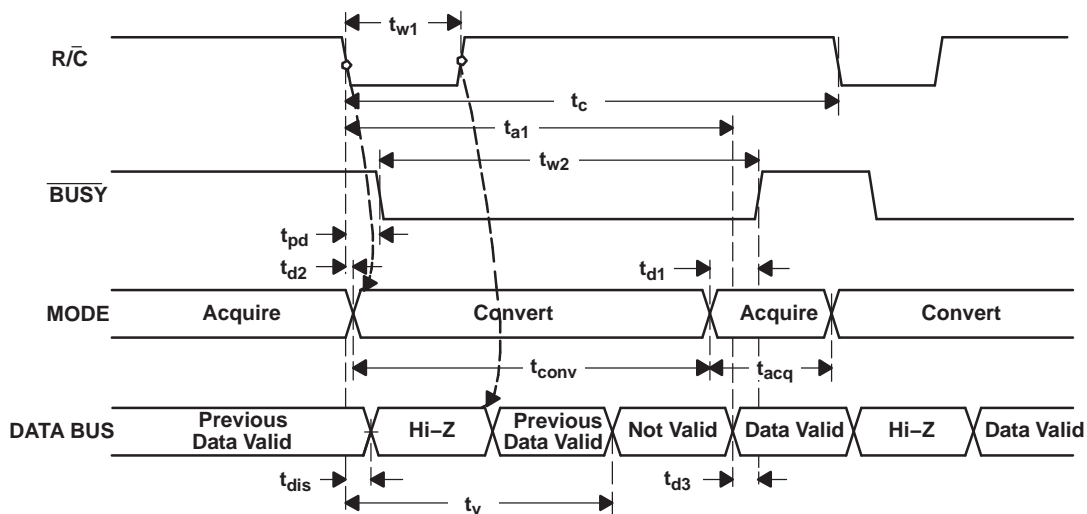
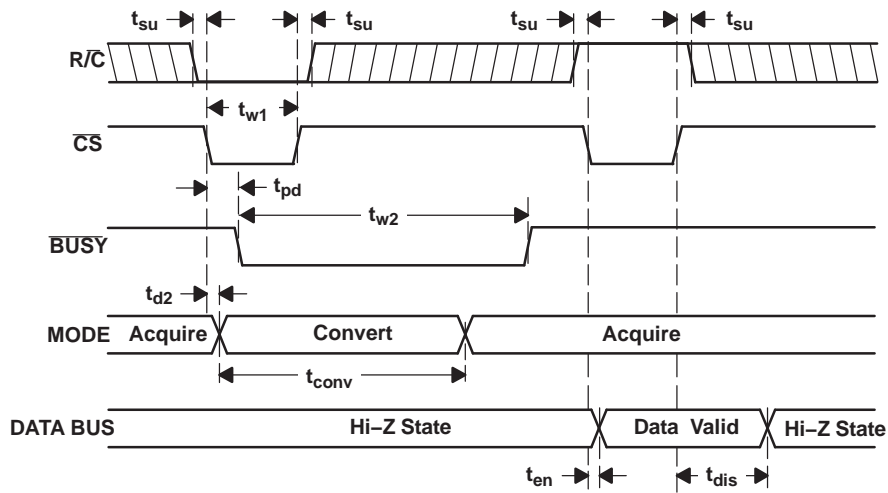
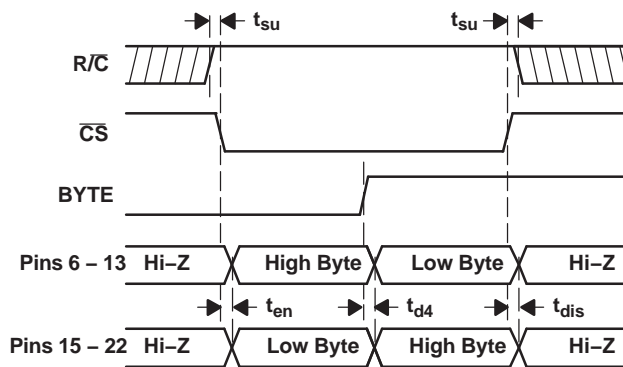

Figure 23. Conversion Timing with Outputs Enabled after Conversion (\overline{CS} Tied Low)
Figure 24. Using \overline{CS} to Control Conversion and Read Timing
Figure 25. Using \overline{CS} and $BYTE$ to Control Data Bus
The ADS8505 begins tracking the input signal at the end of the conversion. Allowing 4 μ s between convert commands assures accurate acquisition of a new signal. Refer to Table 1 for a summary of \overline{CS} , R/\overline{C} , and \overline{BUSY} states and Figure 23 through Figure 25 for the timing diagrams.
(1) See Figure 23 and Figure 24 for constraints on data valid from conversion $n-1$.
After conversion *n* is completed and the output registers have been updated, BUSY (pin 26) goes high. Valid data from conversion *n* is available on D15-D0 (pins 6-13 and 15-22). BUSY going high can be used to latch the data. Refer to Table 3, Figure 23, Figure 24, and Figure 25 for timing specifications.
After conversion *n* has been initiated, valid data from conversion *n-1* can be read and is valid up to *t*₂ (2.2 μs typ) after the start of conversion *n*. Do not attempt to read data from *t*₂ (2.2 μs typ) after the start of conversion *n* until BUSY (pin 26) goes high; this may result in reading invalid data. Refer to Table 3, Figure 23, Figure 24, and Figure 25 for timing specifications.
The number of control lines can be reduced by tying \overline{CS} low while using the falling edge of R/\overline{C} to initiate conversions and the rising edge of R/\overline{C} to activate the output mode of the converter. See Figure 23.